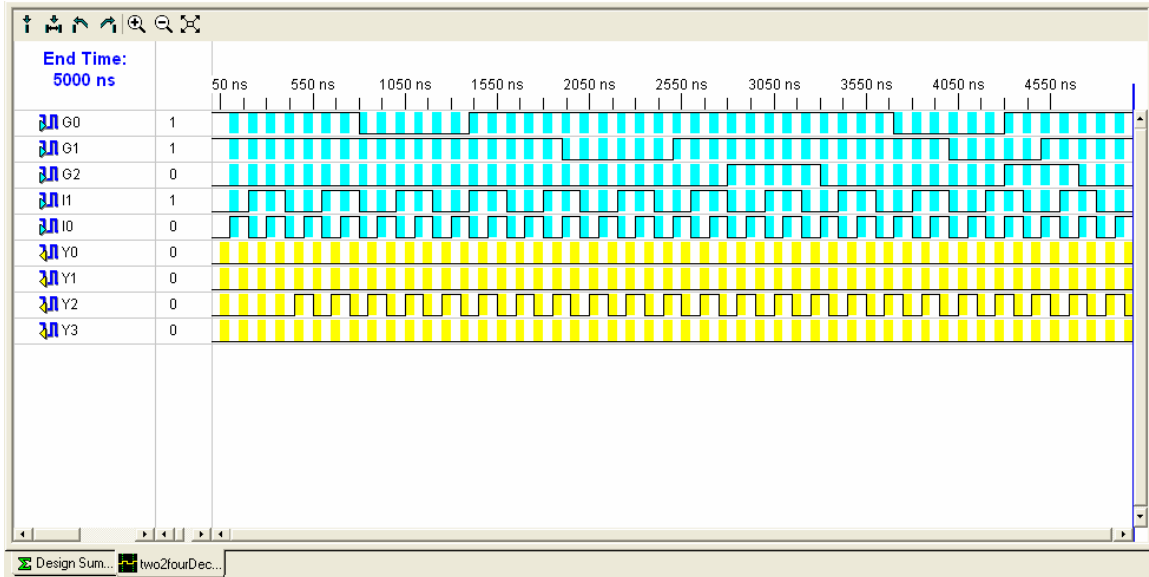

Figure 2, Test Bench Waveform file for demo.
- g. Figure 2 illustrates the final test bench waveform file ready for simulation.